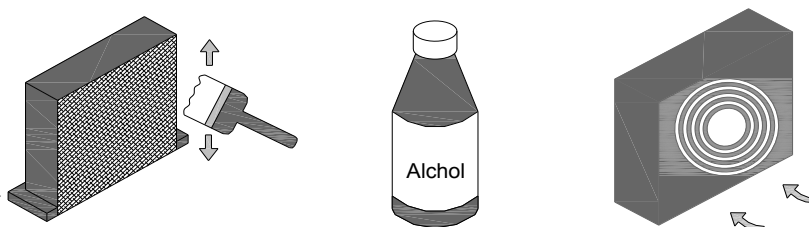

Figure 6: Cleaning of the Condenser
- With the use of an air jet or dry brush with rigid bristles, eliminate, with a vertical movement (as shown in Fig. 6), the dust and down from the wings.